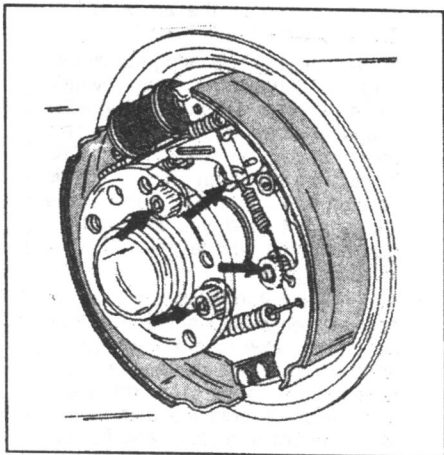

Fig. 7.17. — The four bolts (arrows) secure the brake back plate to the rear axle tube.
- Remove the four bolts shown in Fig. 7.17. An Allen key will be required to remove the bolts. Remove the brake back plate without contaminating the brake shoe linings with oily or greasy fingers.